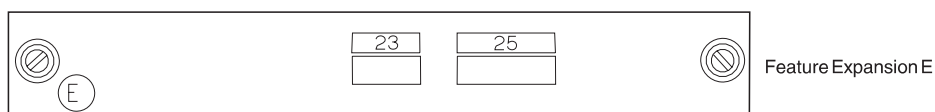

Figure 143. Feature Expansion E
1. Mark an X on Figure 143 to indicate the socket in which the device cables are attached to Feature Expansion E: